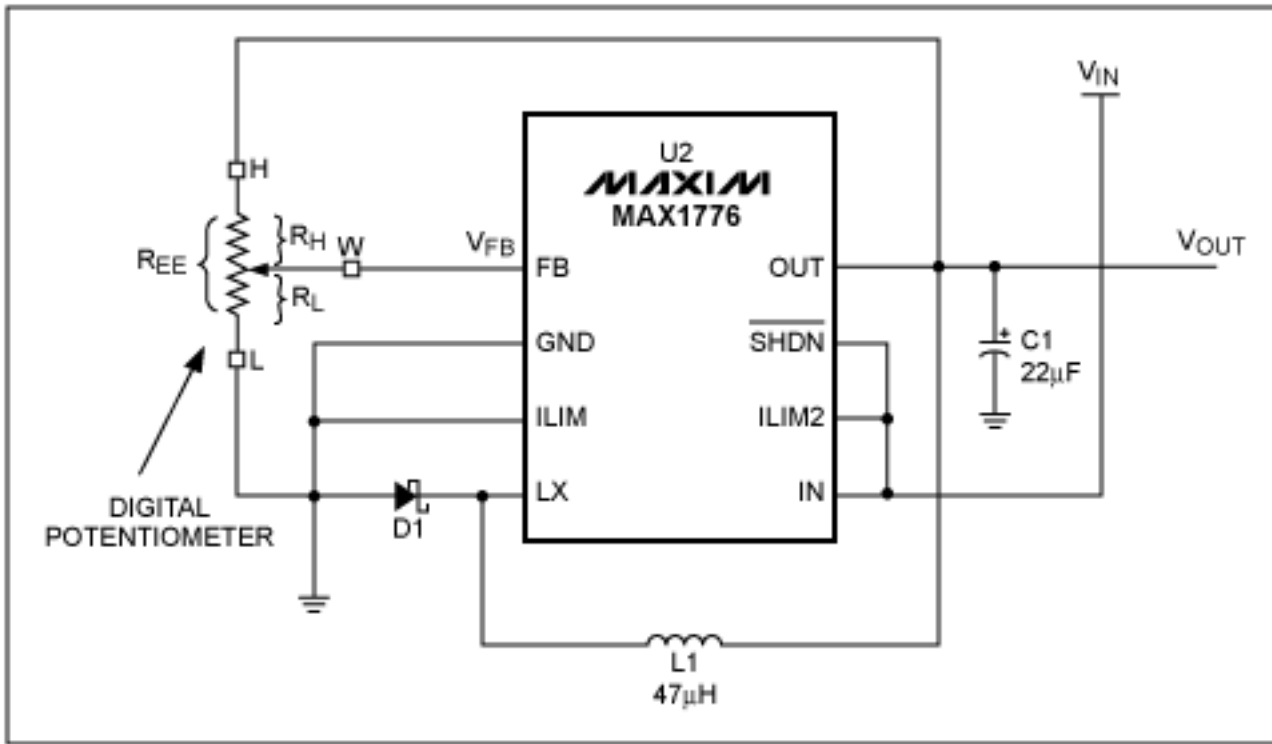

Figure 1. Using a digital potentiometer in the feedback loop with a MAX1776.
To generate an adjustable supply, the digital potentiometer is used to set the ratio of the output voltage V_{OUT} to the MAX1776's feedback voltage, V_{FB} . This is done by connecting the output voltage to the high-side terminal of the potentiometer (H), the low-side terminal (L) to ground, and the wiper output (W) to the feedback pin FB, see **Figure 1**.